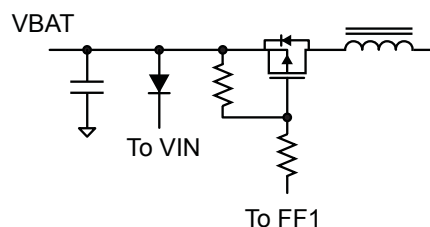

Figure 3. Example of a supply isolation MOSFET
The FF1 output can also be used with pull-up resistors and a P-channel MOSFET in the supply, to isolate the switching elements and the load from the supply. This MOSFET should be connected, as shown in figure 3, with the source connected to the supply and the drain connected to the inductor of the converter.
**Reverse Supply Protection** Protection for the A6265 is provided by an external low current diode between the supply and the VIN pin, as shown in the Functional Block Diagrams section. The isolation MOSFET shown in figure 3 is only able to provide isolation when the supply polarity is correct. However, with an additional P-channel MOSFET, it is also possible to provide reverse battery protection to the switching elements and the LEDs. The additional FET should be connected, as shown in figure 4, with the drain to the supply and the source to the source connection of the original isolation MOSFET.
In the complete circuit, consideration should be given to limiting the maximum gate-source voltage of the FET. If the supply voltage is likely to exceed 20 V, then either: a Zener clamp must be added in parallel with the gate-source resistor to prevent damage to the FET, or a second resistor added as shown in figure 3.